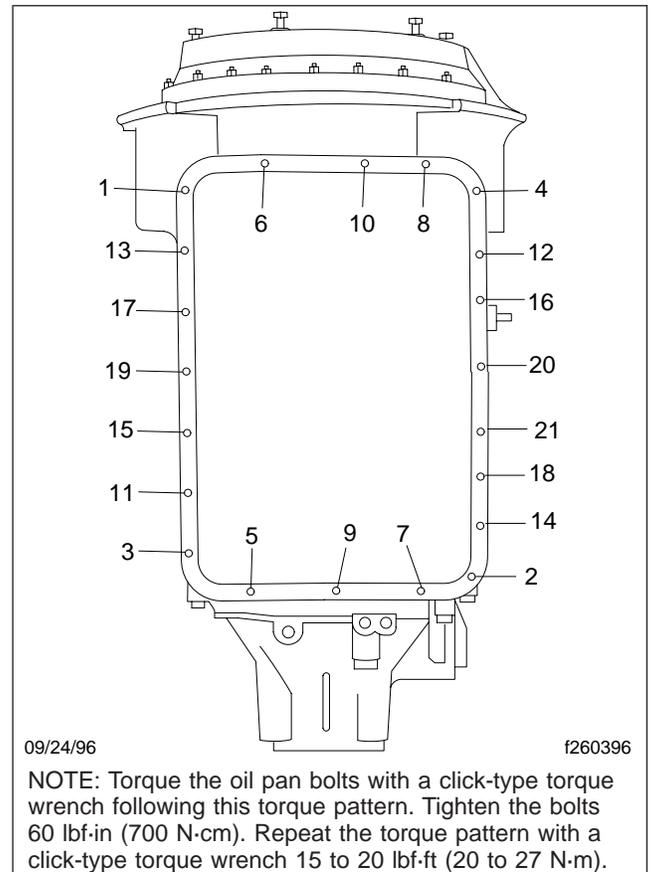

Fig. 10, Allison MT Series Transmission, Oil Pan Torque Pattern
14. Tighten each capscrew with a click-type torque wrench 60 lbf-in (700 N·cm). Use the torque pattern shown in **Fig. 10** to distribute the torque evenly. Repeat this procedure and torque the capscrews with a click-type torque wrench 15 to 20 lbf-ft (20 to 27 N·m).